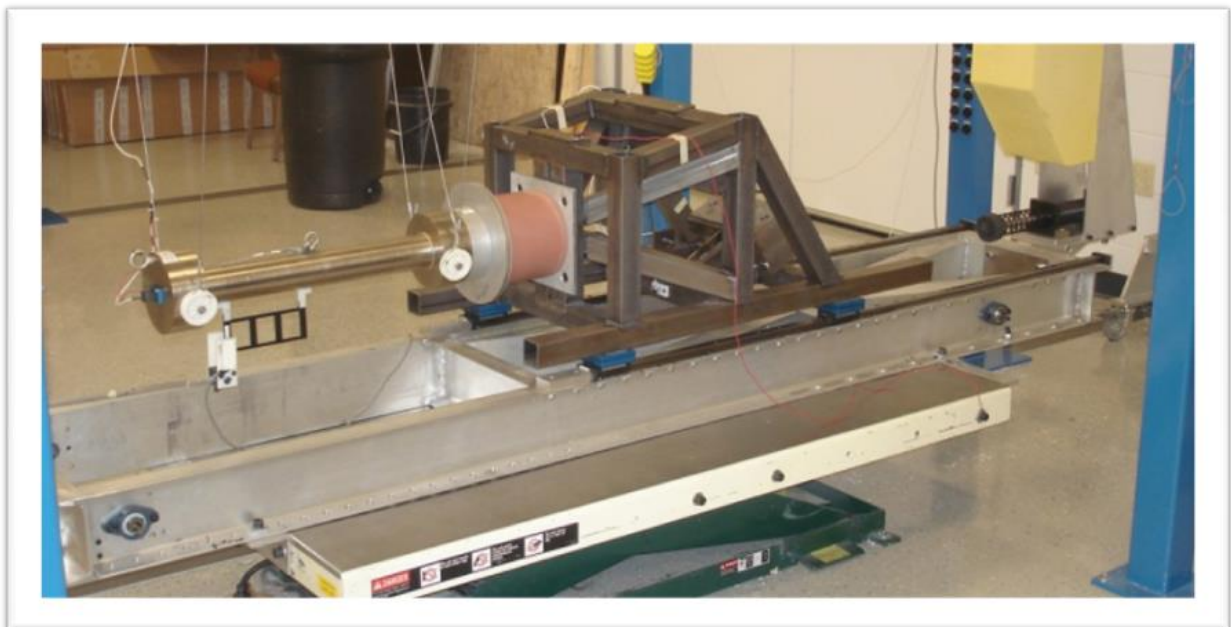

Figure 2: BioRID Sled and Track Certification
- Figure 2 illustrates the typical sled and track certification setup.